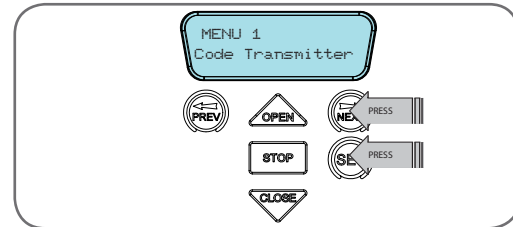

fig 32
1. Press NEXT to navigate to Menu 1 (Fig. 32).